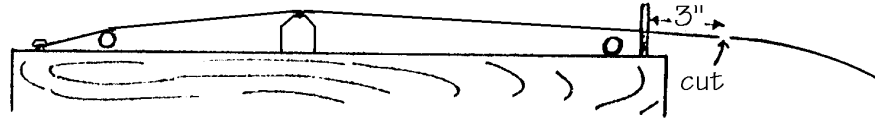

FIG. 20
- \_\_\_29. Trim one of the bottom loop-end strings about 2-3 inches longer than necessary to reach the first tuning pin on the right side of the instrument. (fig. 20)